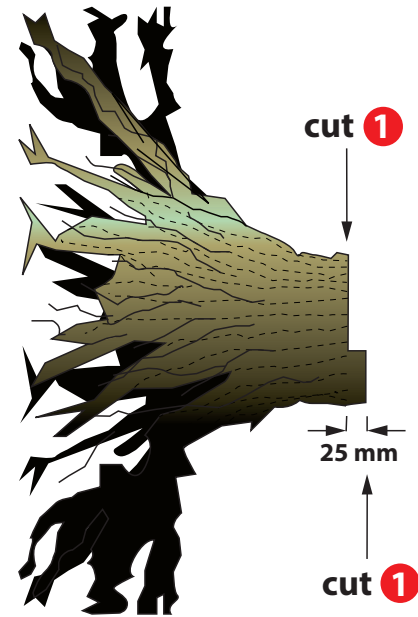

Figure 1:
- 22 When there is a danger that the stem may spring upwards, make the final severing cut into the tension wood at least 25 mm away from the first (compression) cut and into the part of the stem that is least likely to move (see Figure 1). A series of cuts may be made on the compression side to relieve excessive tension in the stem.